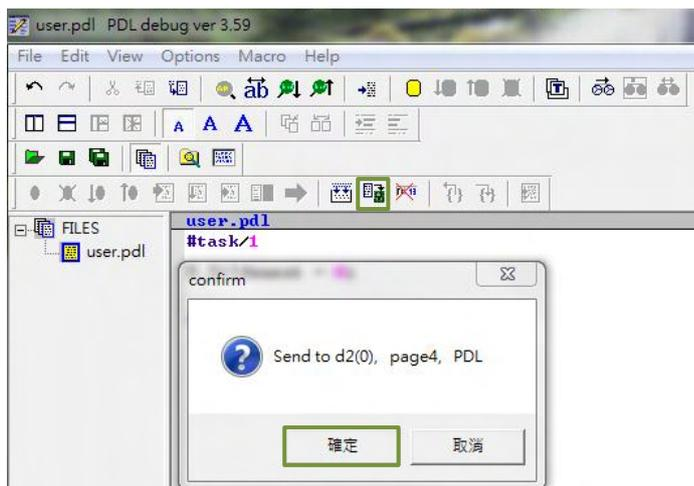
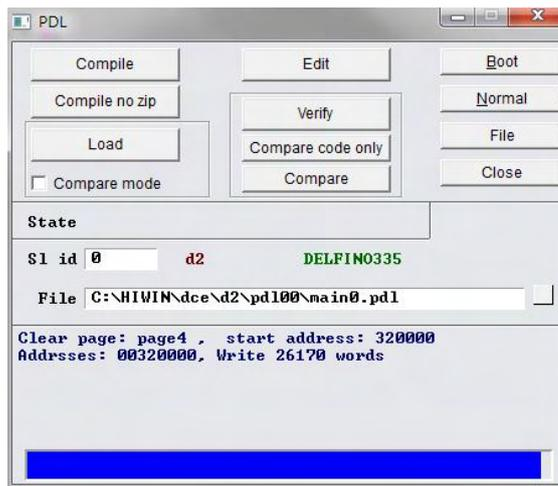

Figure12.2.5
Figure 12.2.6
Step 4. When “Compile” is completed, click the “Send to slave” icon (📡). Then, click the “Confirm” button in the dialog window of Figure 12.2.5 to display the execution window of Figure 12.2.6. After the PDL program loading is done, this window will close automatically.